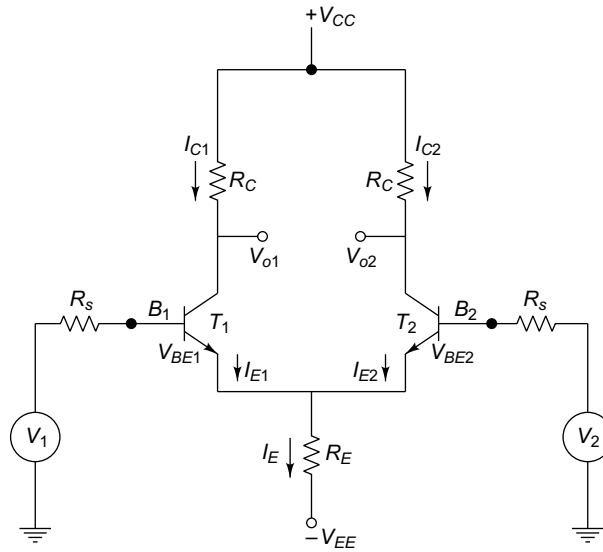

Fig. 4.34
19. The difference amplifier as shown in Fig. 4.34 has the following parameters: